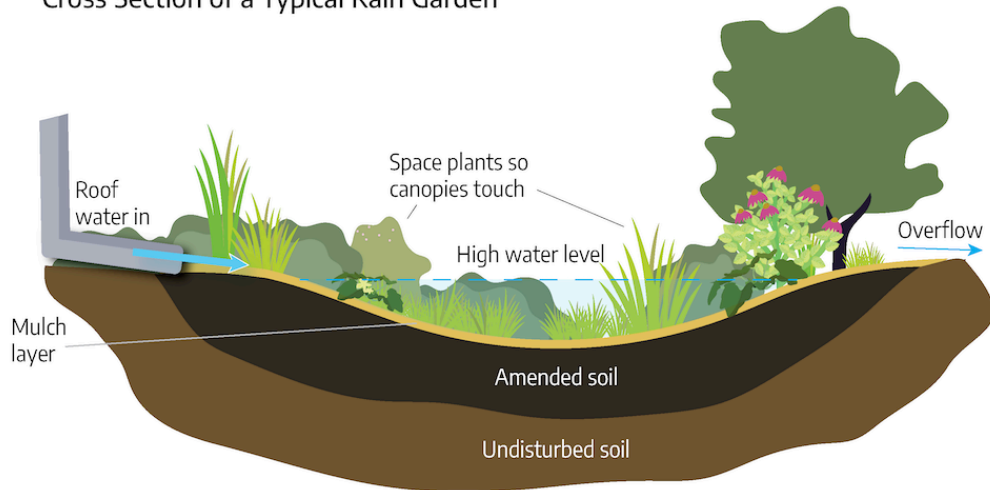

Figure 17-10: Rain garden.
- Figure 17-10: Rain garden. Johnson, Devon. 2022. CC BY-NC-SA 4.0. Adapted from Toronto Region Conservation Authority: Complete Guide to Building a Rain Garden, 8-14-18.